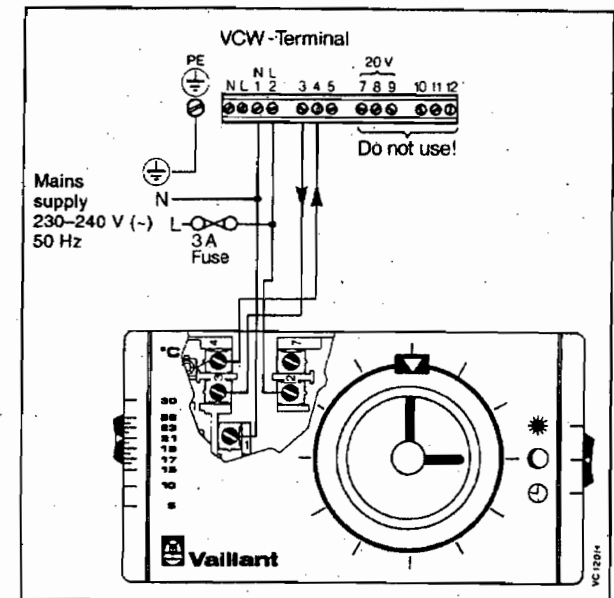

Fig. 24
- A) Automatic temperature setback (Fig. 24) or